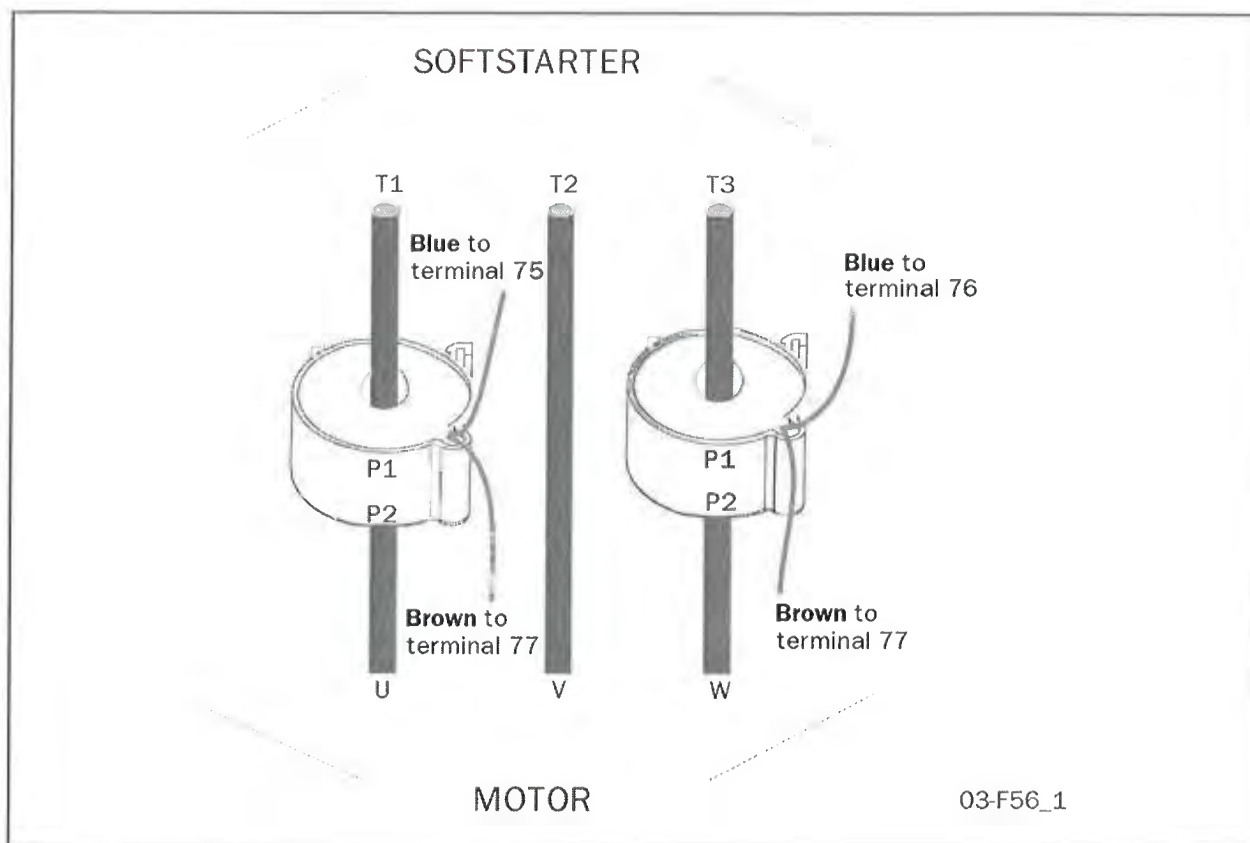
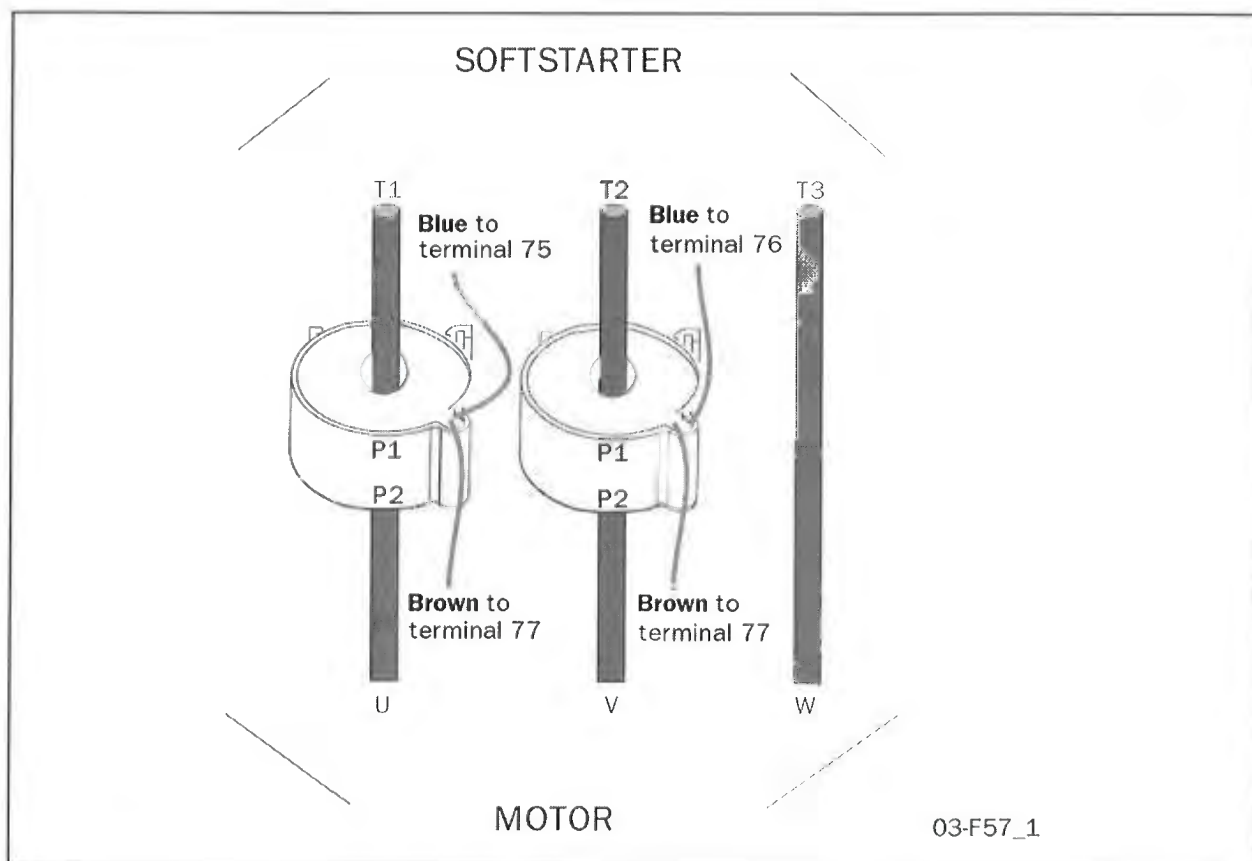

Fig. 44 Current transformer position when Bypass MSF-017 to MSF-250.
Fig. 45 Current transformer position when Bypass MSF-310 to MSF-1400.
**NOTE!** If one like to use the alarm functions, the extended functions or the viewing functions the 2-pcs current transformers must be mounted outside the soft start as shown in Fig. 44 and Fig. 45 on page 45. For this purpose an optional extension cable for the current transformers is available. Code No 01-2020-00.